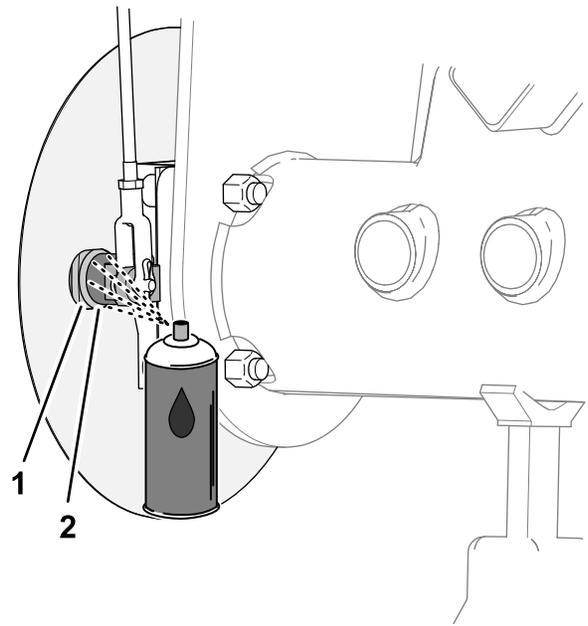
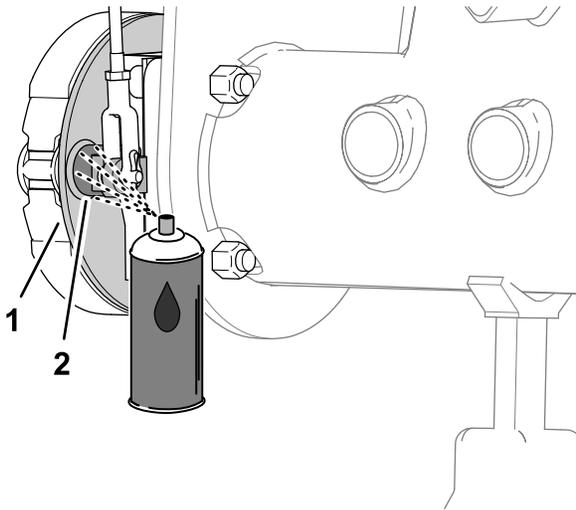

Figure 82
Figure 81
1. At the inboard side of the brake-backing plate (machines without the optional wheel-rim grass shield) or the wheel shield (machines with the optional wheel-rim grass shield), spray penetrating oil between the brake cam shaft and the backing plate (Figure 81 or Figure 82).